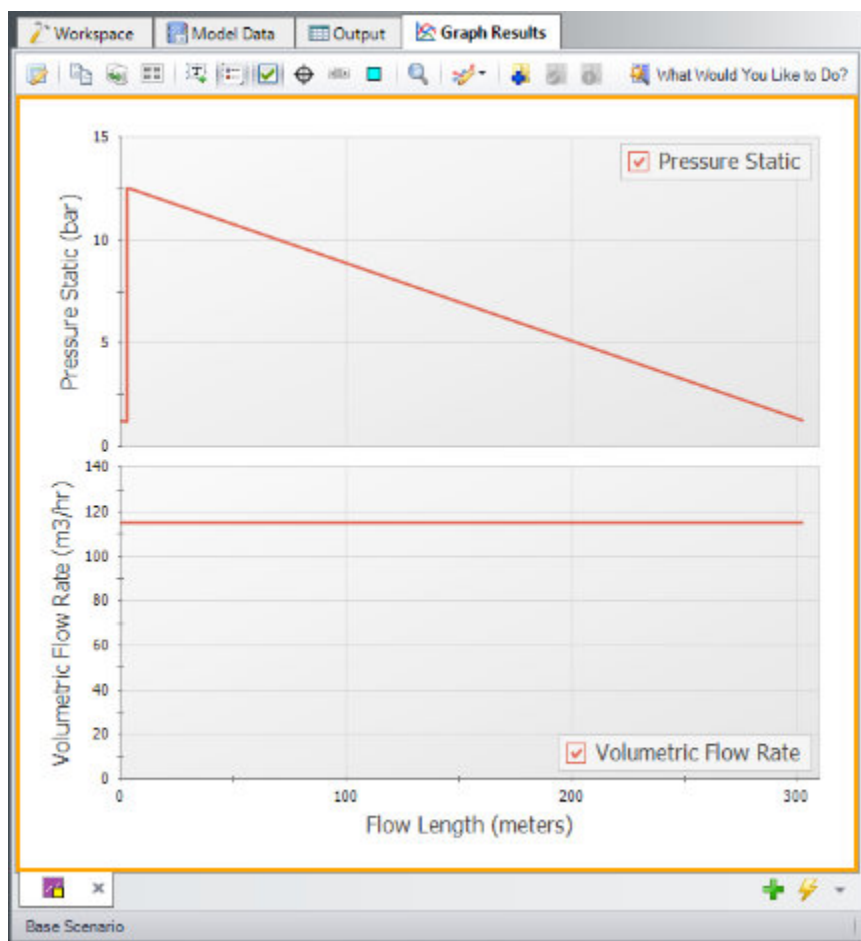

Figure 2.32 The Graph Results window showing a graph of the static pressure and volumetric flow rate along the entire length of the pipeline
- ▶ **Click Generate** to create the stacked static pressure and volumetric flow rate graphs, shown in Figure 2.32. Note that the pump adds approximately 12 bar of pressure in order to maintain a flow of 115 m3/hr throughout the pipeline.